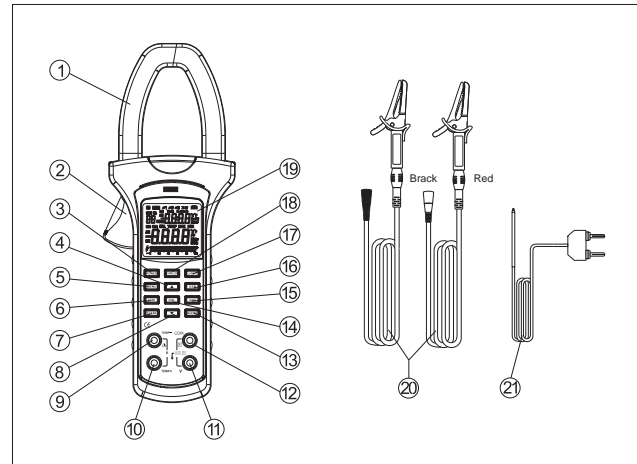

Figure 1
A. The Meter Face View (see figure 1)